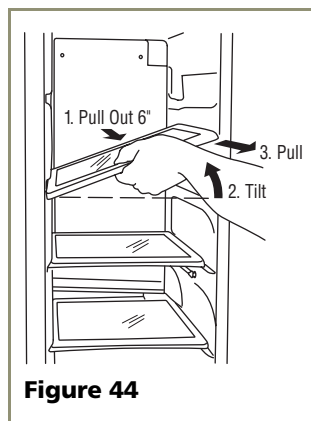

Figure 44
1. See **Figure 44**. Pull shelf out about 6" to clear the wall's molded protrusion.